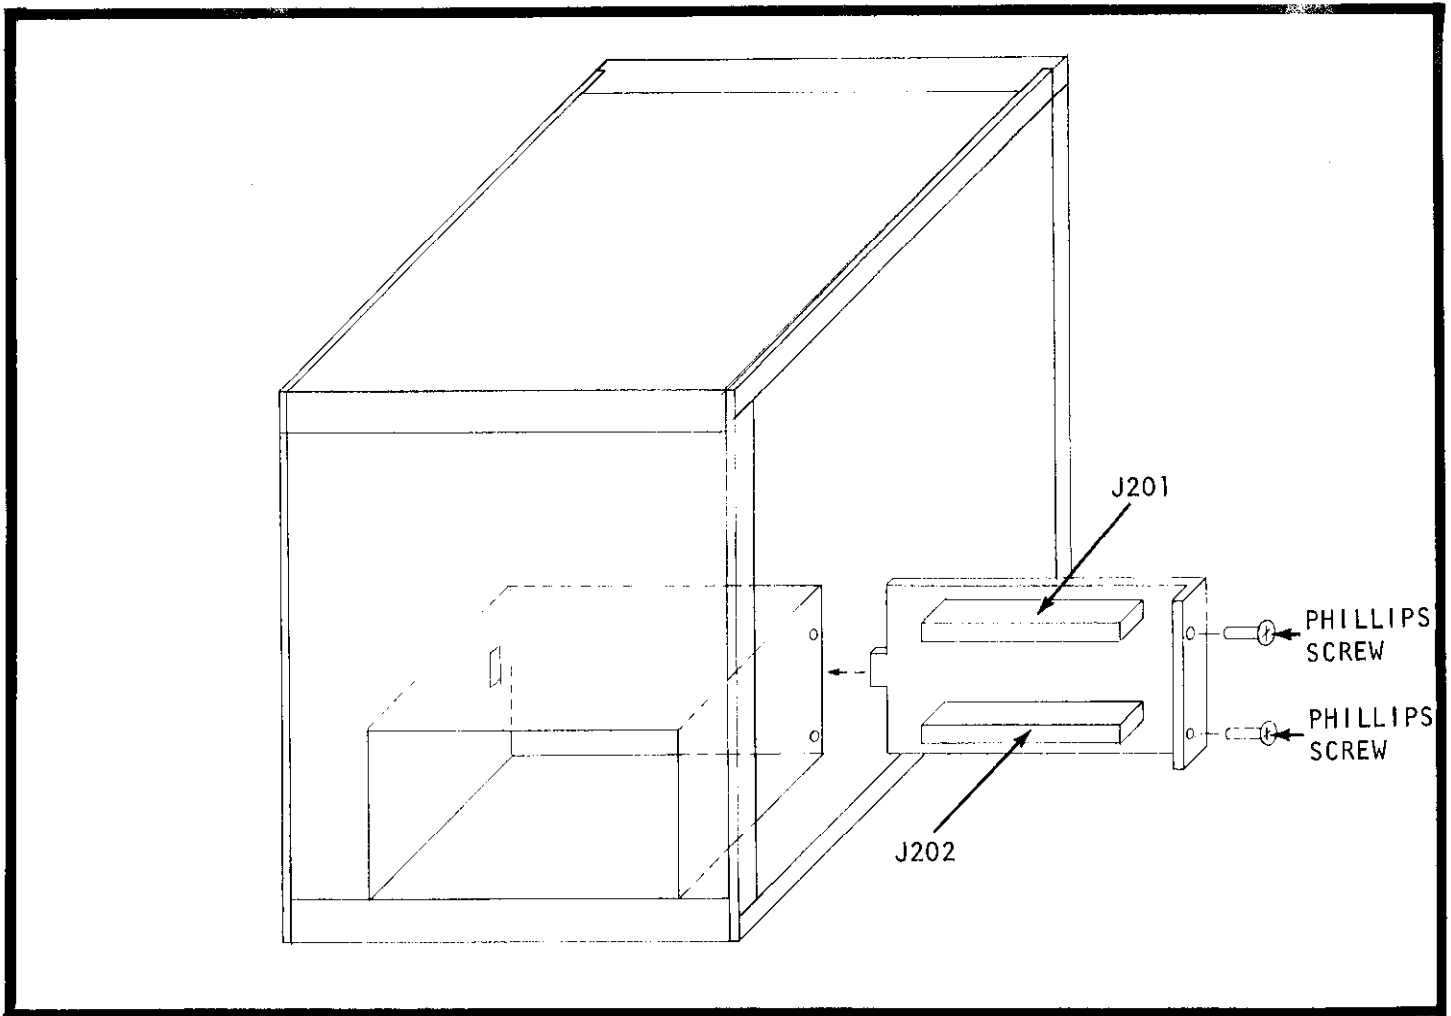

FIGURE 17. Assembly of Connector Board.
6. To completely remove the Mother board detach all connectors from the board (see figure 17).